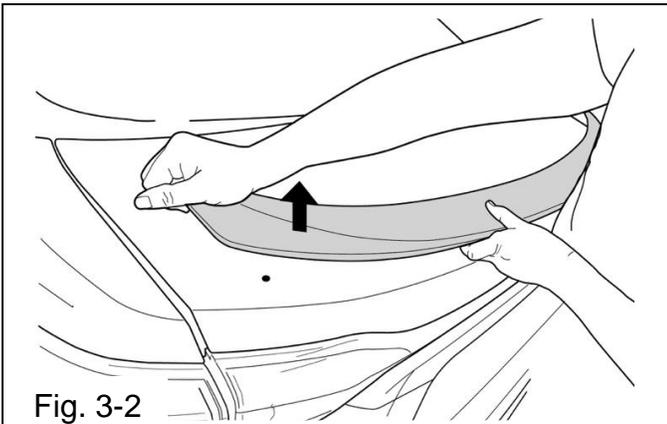

Fig. 3-2
- c) Starting on outside corner, use a plastic pry tool to remove the exiting spoiler and any tape adhering to the surface (Fig. 3-2).